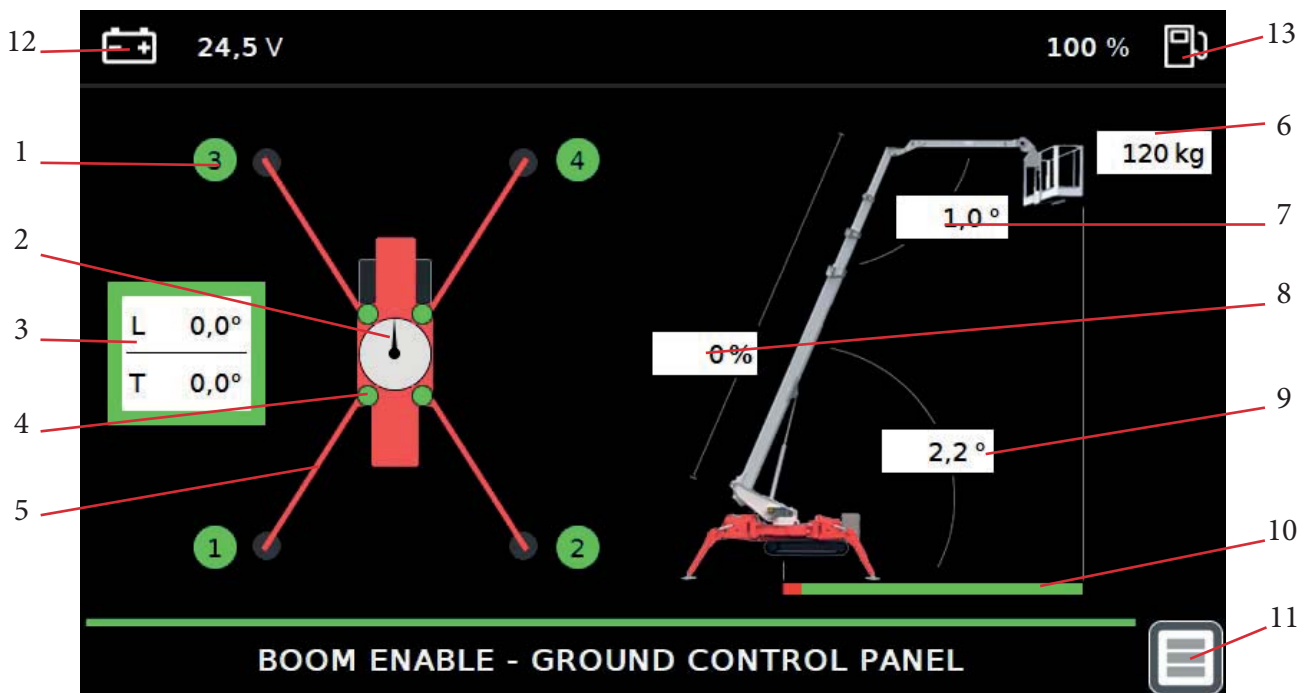

Fig 3.17
If the platform is working with the boom, the display shows the screen of Fig. 3.17.
The button in the lower right corner pos. 11 Fig. 3.17 opens the main index of the system (Fig. 3.18) where you will find four different areas: